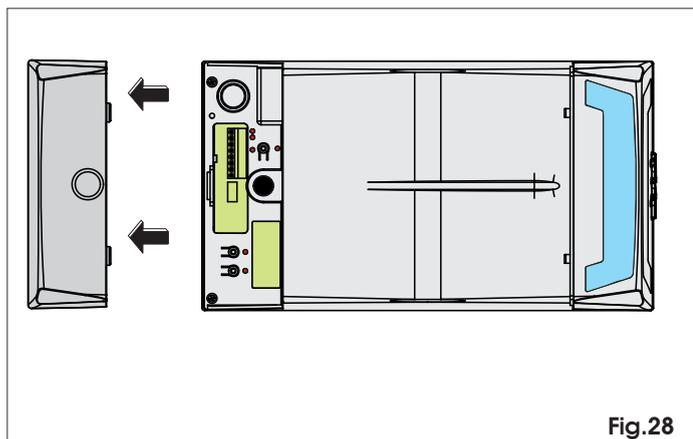

Fig.28
**👉** The SETUP cycle is carried out with the plastic housing installed. Just remove the rear door (Fig. 28). Grip the rear door with both hands and pull gently downward. When you have finished the procedure described in this chapter, put the door back in place.